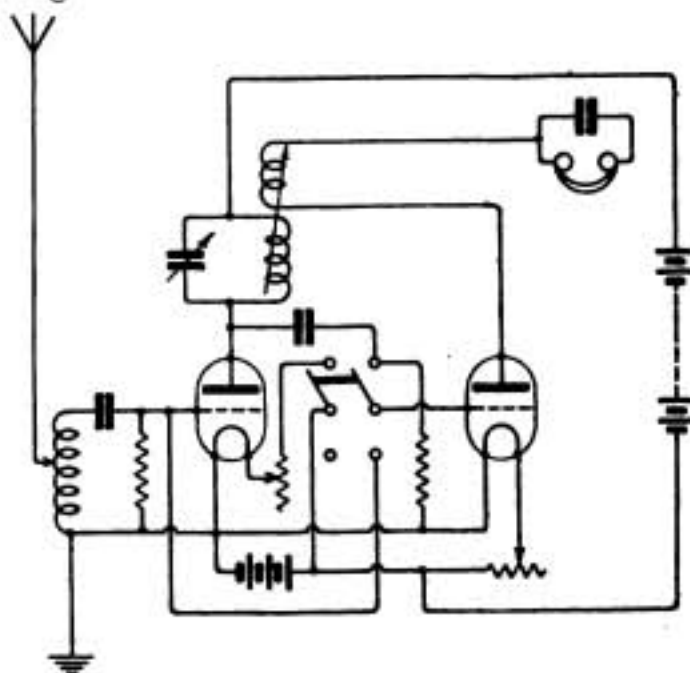

Fig. 5.
(1) A.T.I. might be 9" x 6" of No. 22. As you have no other method of tuning, provision of taps would not be sufficient. A slider would be necessary. Reaction of the type suggested is to be prohibited in future by the P.M.G. Your set
should therefore be much more efficient if arranged as in Fig. 5, page 573, July 28th issue. (2) In your circuit the A.T.I. and reaction coil should certainly be inductively coupled together, but see note above.
(1) and (2) See diagram (Fig. 5). (3) Any-standard hard valve by a reputable maker would give good results.